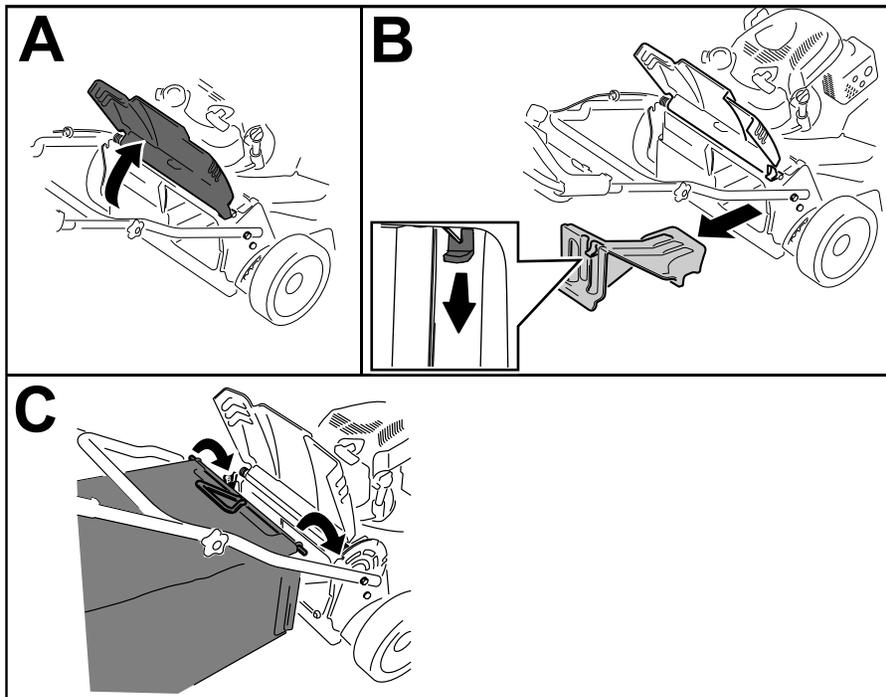

Figure 24
1. Raise and hold up the rear door (A of Figure 24).
2. Remove the rear-discharge plug by pulling down on the latch with your thumb and pulling the plug out from the machine (B of Figure 24).
3. Install the bag rod into the notches at the base of the handle and rock the bag back and forth to ensure that the rod is seated at the bottom of both notches (C of Figure 24)